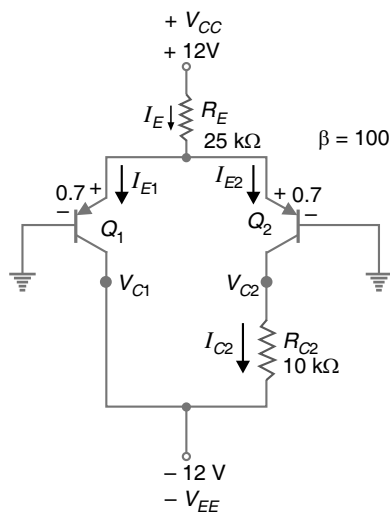

Fig. 23.19
**Example 23.10.** Fig. 23.19 shows a differential amplifier constructed with pnp transistors. Find the bias currents and voltages.